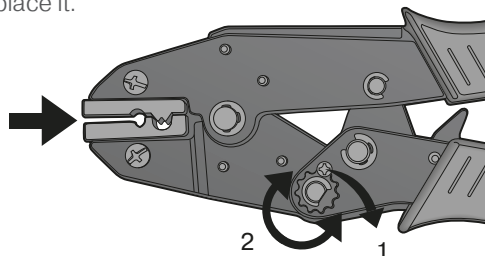

Fig. 12. Adjust gap
If the gap needs adjusting, Fig.12 illustrates, press the handles together untill it has clicked 7-8 times and locked into position. Remove the screw (1) and adjust the knob (2) 1-2 positions. Insert the screw again, compress handles fully and inspect the gap, if OK, tighten the screw.